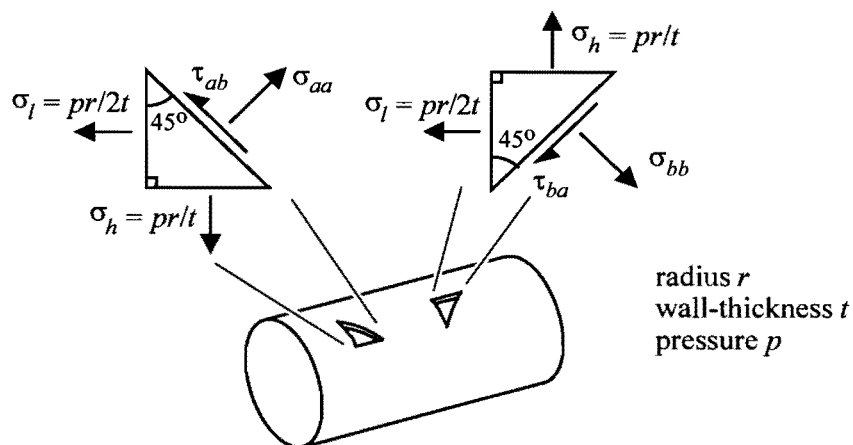

Figure 1
- † 1. Figure 1 shows the stresses acting on two triangles cut from a pressurised cylinder.
- † 4. Draw all three Mohr's circles of stress for the pressurised cylinder shown in Figure 1. For each circle, identify the principal direction about which you are rotating.